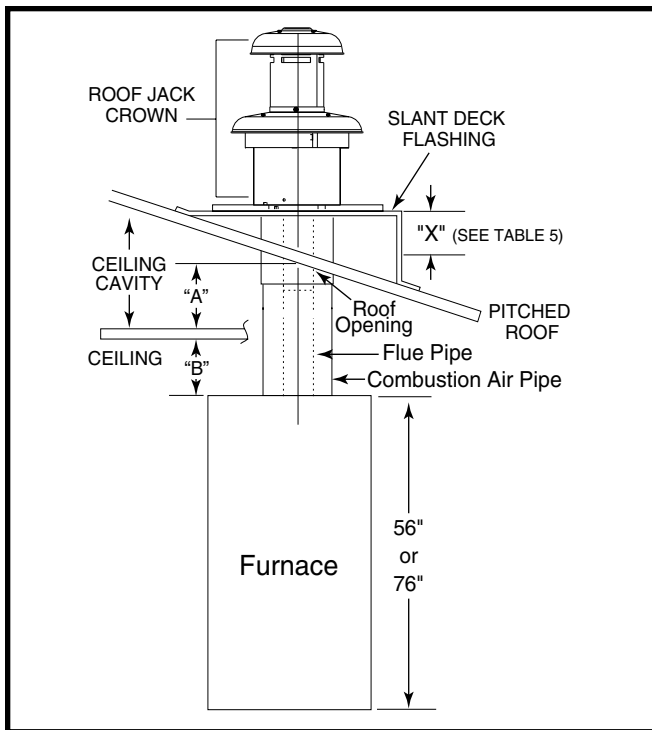

Figure 16. Ceiling Cavity Depth
1. Determine depth of ceiling cavity from center of roof opening to center of ceiling opening noted as "Dimension A" in Figure 16 (page 11).
2. Determine ceiling height and subtract height of furnace noted as "Dimension B" in Figure 16 (page 11).